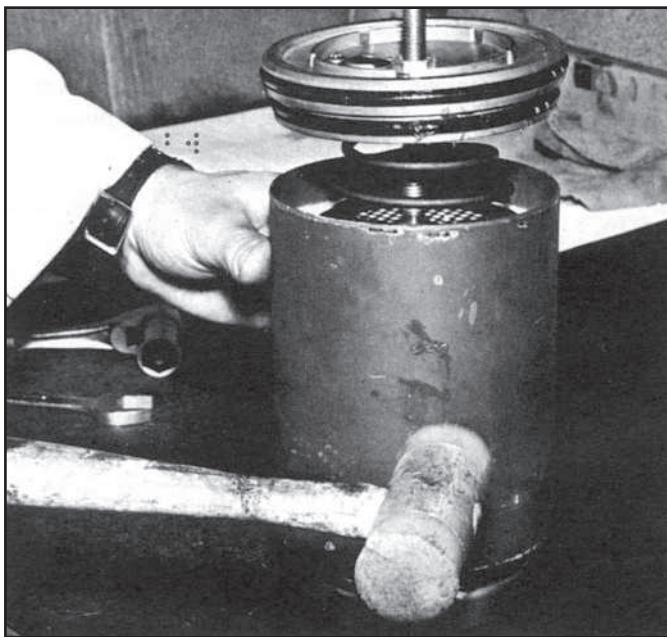
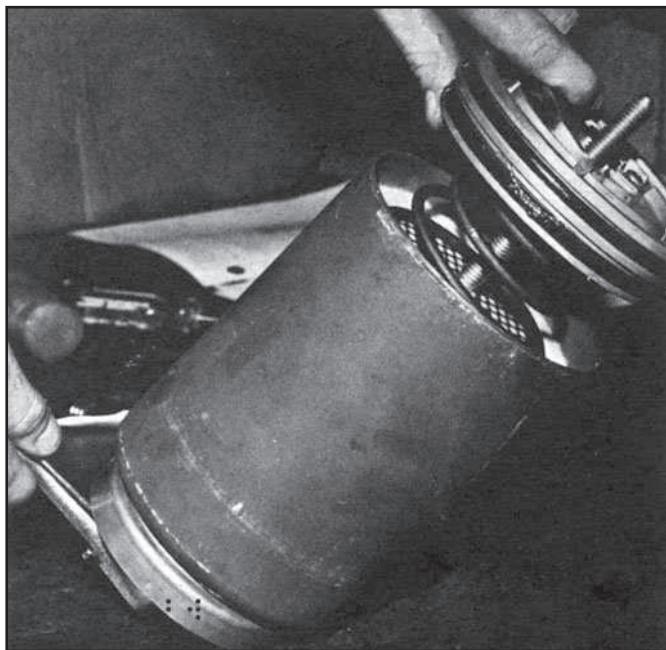

Figure 14 – Settling Desiccant
Figure 15-1 – Securing the Cartridge
2. Install the previously rebuilt desiccant sealing plate on the cartridge bolt so that the ball check retaining clip remains visible. (See Figure 15-1 & 15-2.)
12. Using the lock nut, draw the assembly together to approximately half of the spring's free height. While slowly turning the cartridge, tap the side of the shell with a plastic mallet. (See Figure 14.) This allows the desiccant material to settle properly into place. Continue to tighten the nut, making sure all items are properly aligned. Tighten nut firmly using an 11/16" socket or box wrench. (See Figures 15-1 and 15-2)